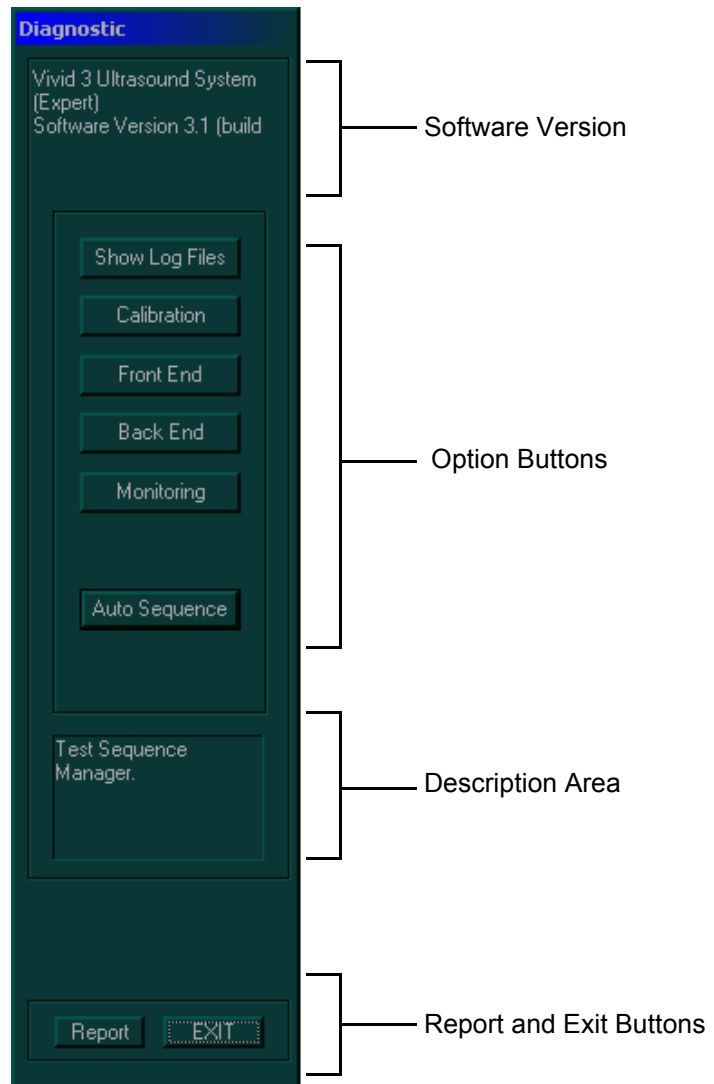

Figure 7-1 Diagnostic Menu
- In 2D-Mode, press <Ctrl+F11> on the alphanumeric keyboard. The *Diagnostic* menu is displayed, as shown in Figure 7-1 on page 7-3.